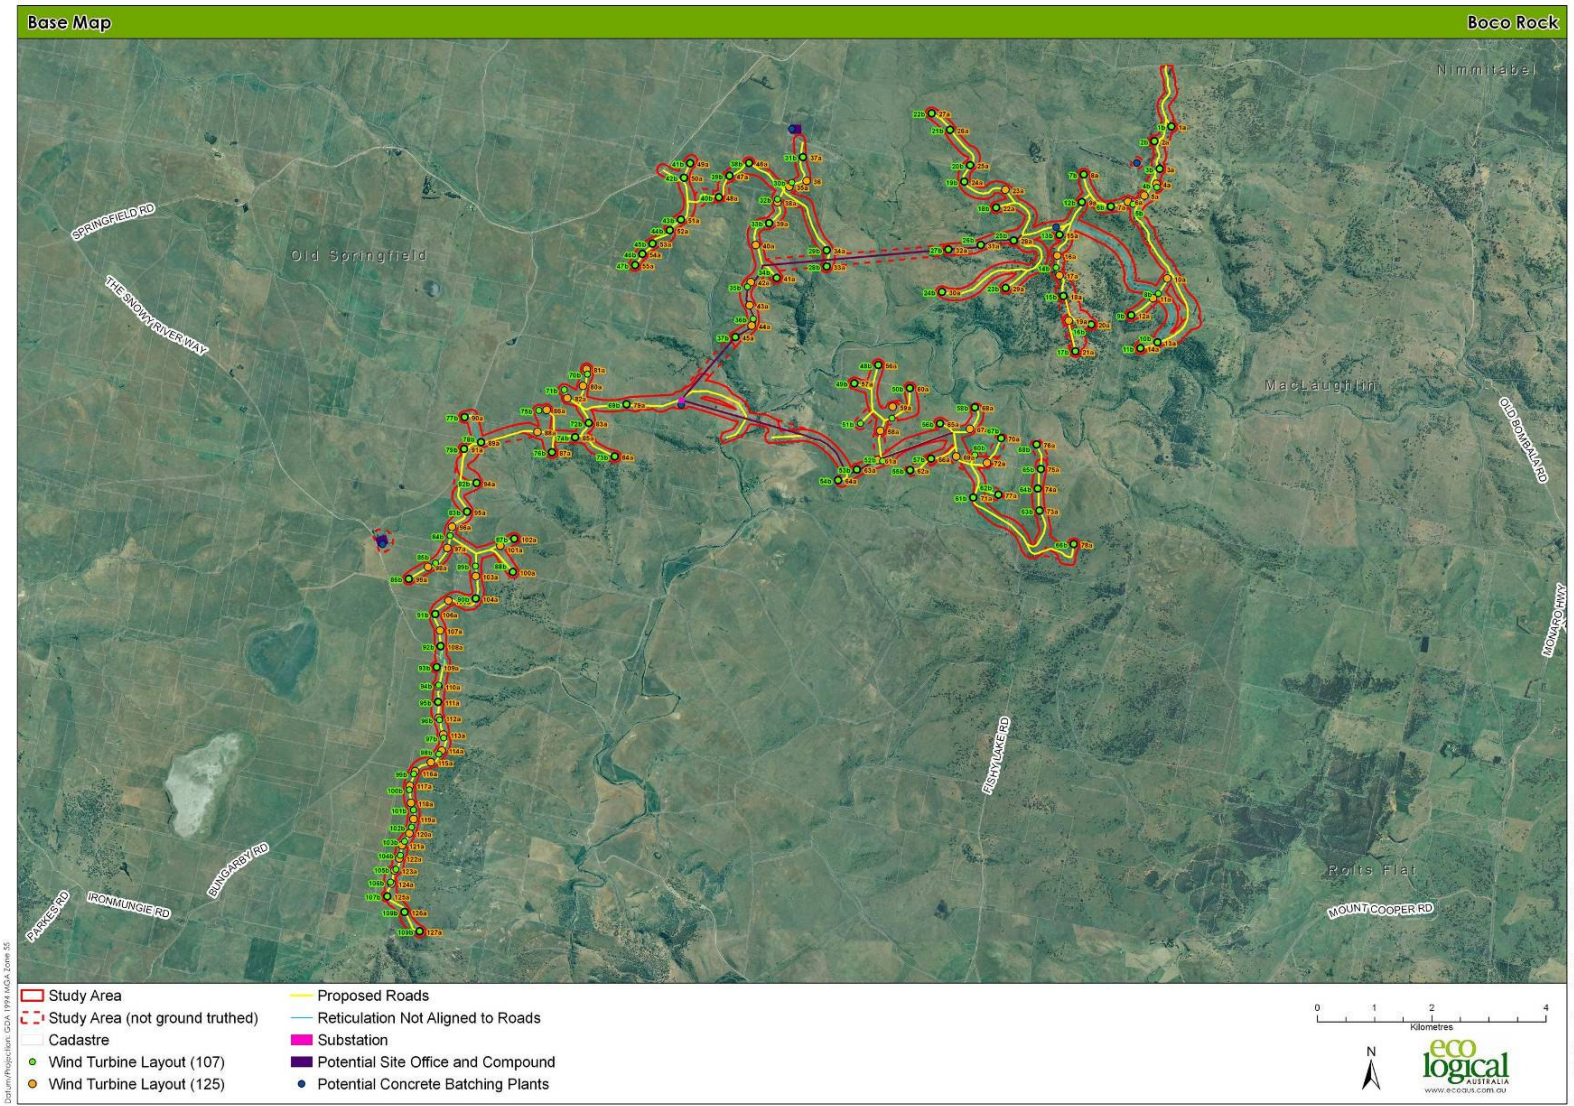

Figure 1: Study Area
3. In the event of a bushfire emergency, ECO to instruct all staff to move immediately towards the designated refuge point as mapped on Figure 1, Appendix 1 [*To be updated*];
The designated off-site refuge point is the Nimmitabel Police Station, Bombala Street, Nimmitabel (02 6454 6444). (Refer to Figure 1, Appendix 1, for the appropriate access roads and direction from the site to Nimmitabel).
Appendix 2 – Figure 1